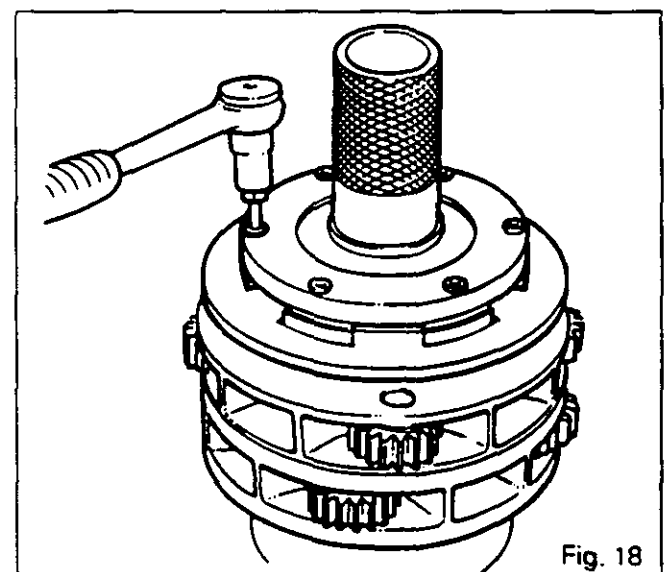

Fig. 18
51. Centre the clutch housing assembly (59) using tool 3376887 M1 (Fig.18). Coat the bolts (46) with loctite 241 and torque them to 12 - 16 Nm. Remove the tool. Separate the housing assembly from the planetary carriers.
52. Coat the washer (51) with miscible grease and place it on the cover (47).
53. Fit a disc (41) in the brake housing (42).